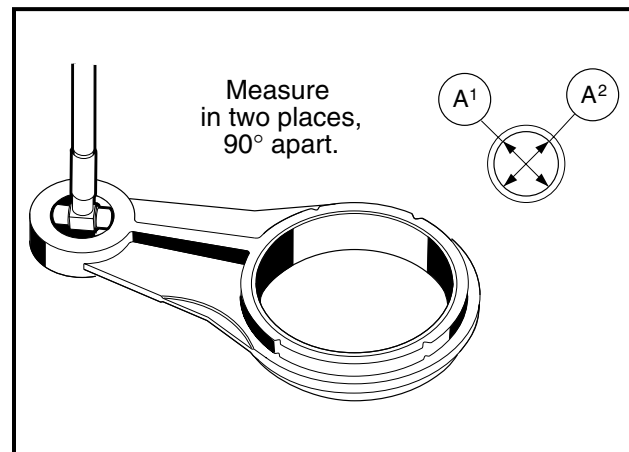

Figure 18-70 Measure Link Rod Small Bore I.D.
- 1.2. If the inside diameter of the small end is greater than 0.4746 inch (12.057 mm), replace the link rod (**Figure 18-70, Page 18-34**).